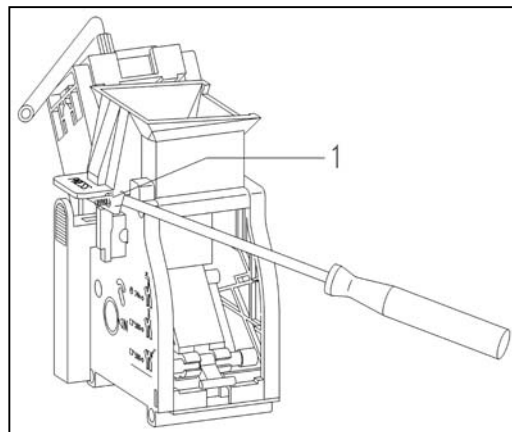

Figure 5-28: Front of Brew Unit, showing spring location and holder
3. Lever the funnel upwards out of its holder (Figure 5-28).
When installing the Funnel, ensure the spring (Figure 5-28, Item 1), is seated correctly.